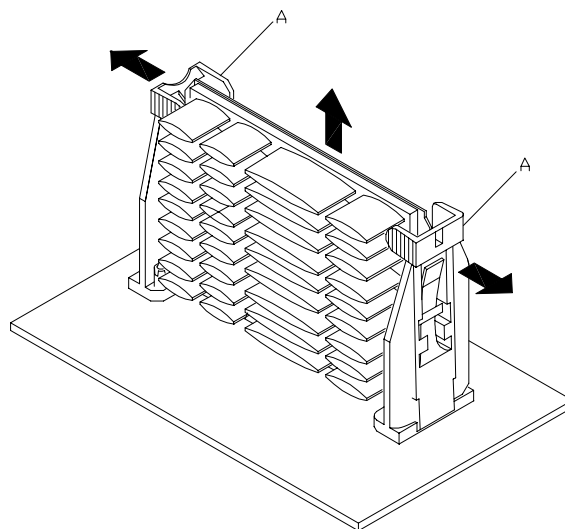

Figure 4-7. Removing a Processor
6. Pull the processor latches, (Figure 4-7,A) out away from the edges of the SECC2 cartridge to free them from the Universal Retention Module (URM).